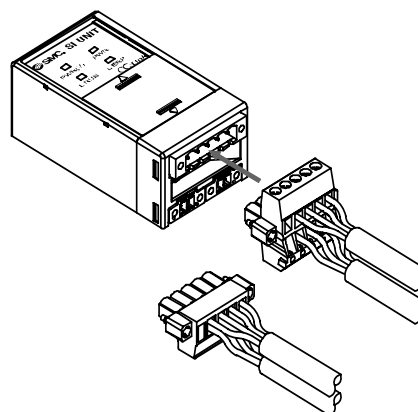

Fig.4
- (4) Refer to Fig.4 about how to connect to the unit.